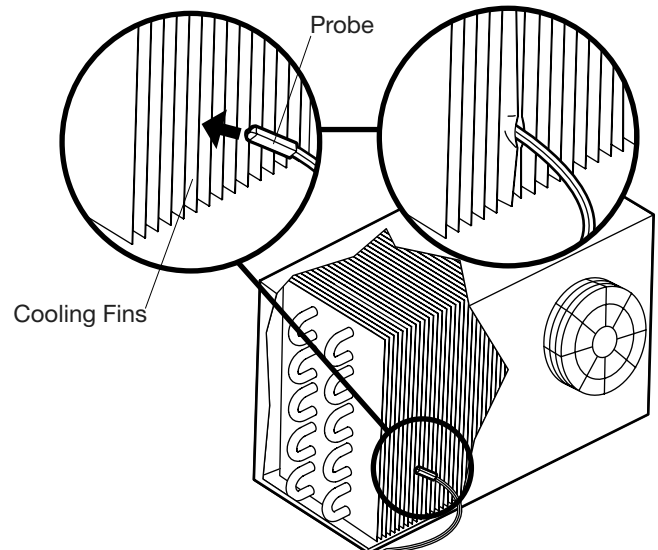

FIG. 9 Insert Thermistor Probe between Evaporator Cooling Fins
- Insert the probe between the cooling fins, as shown in FIG. 9. Ensure that the probe makes good contact with one of the evaporator tubes. Then, using needle nose pliers, carefully bend the cooling fins together to hold the probe firmly in place.